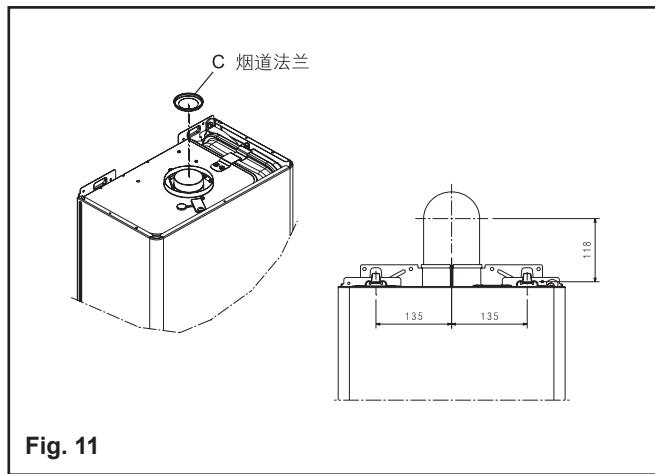

Fig. 11
6. 锅炉的进气与排烟 (Fig.11 – Fig.13)
同轴烟道 (Φ 60–100) (Fig.11 – Fig.13)